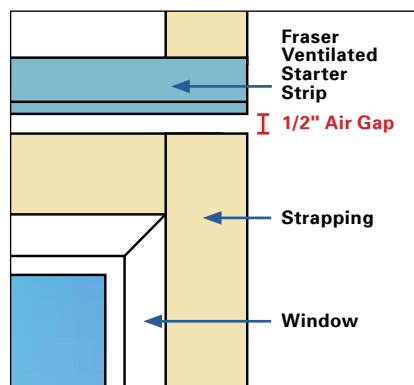

Fig. 4
- Leave a 1/2" air gap above and below all windows and doors that are greater than 4' wide. Use Fraser Wood Siding Ventilated L-Moulding (or bug screen) below windows and Fraser Ventilated Starter Strip above windows to allow for ventilation and prevent insects from nesting behind the siding. *(See Figure 4)*